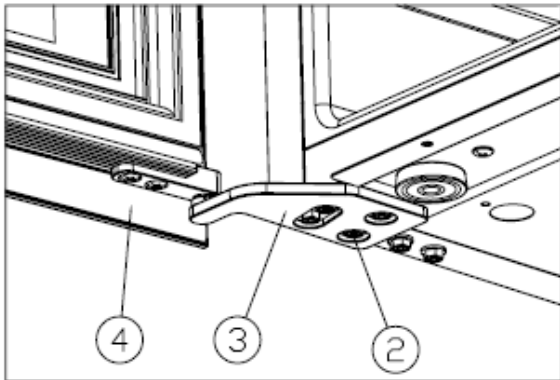

Figure 5
- ✧ Install the right upper hinge ③, and screw tight the M5*16 screws ②. [Figure 5]